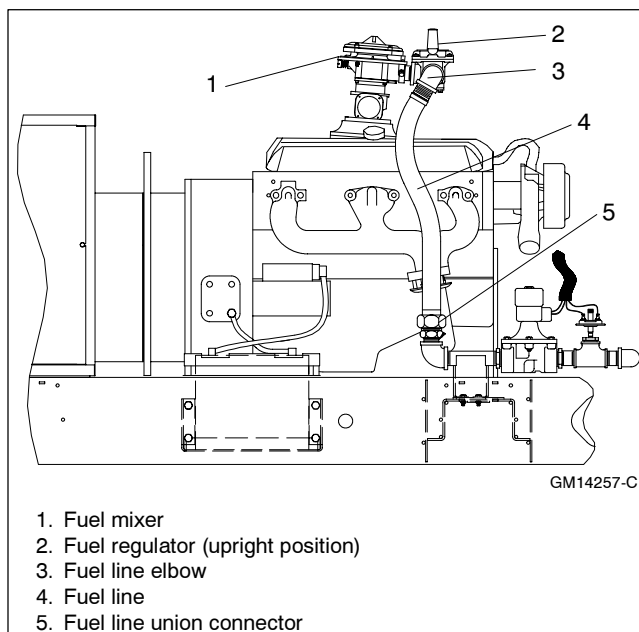
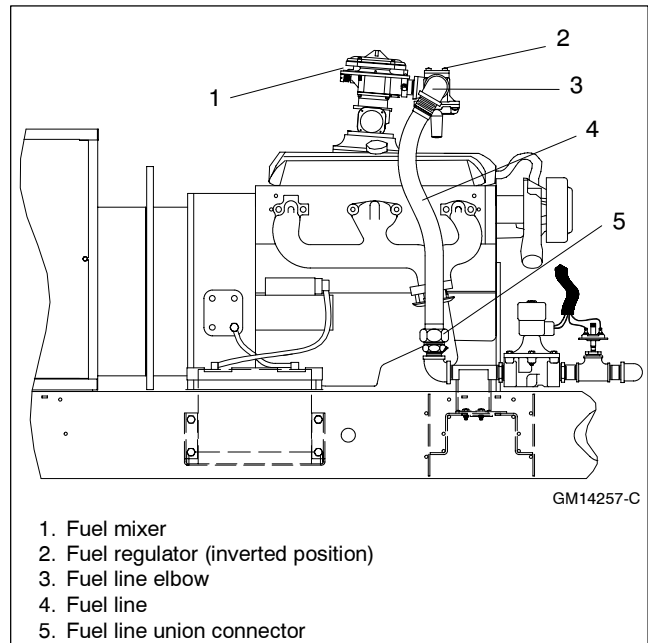

Figure 2 Natural Gas Fuel System Configuration
Figure 3 LP Gas Vapor Fuel System Configuration
The Figure 2 and Figure 3 illustrations show the 50/60 kW models; the 30-45 kW and 80/100 kW models are similar.
- 3.4 Disconnect the fuel line at the union connector. See Figure 2.